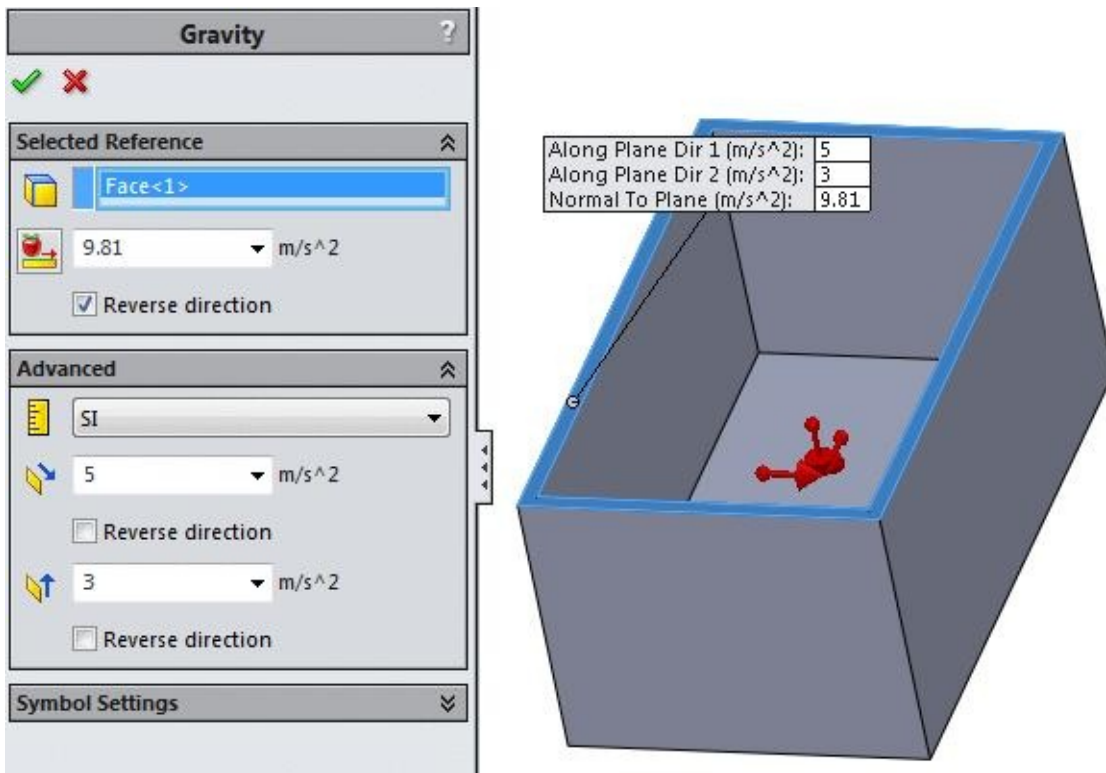

Figure-45. Preview of gravitational force advanced
- If you want to specify more components of gravitational force then expand the **Advanced** rollout and enter the values for two other direction vectors of gravitational force; refer to Figure-45.